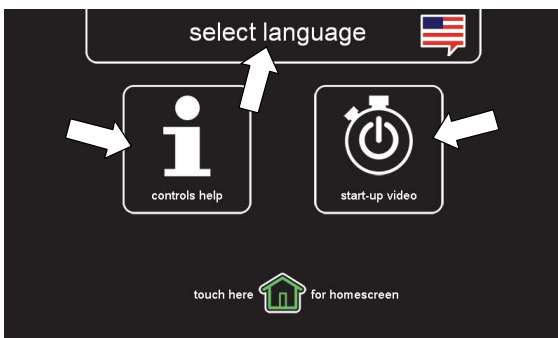

FIG. 49
2.  For first time users, press the help icon on the operator home screen (Figure 46). The help screen, shown below, will allow you to select a different display language, help identify control panel icons and view start-up operator videos (Figure 49).